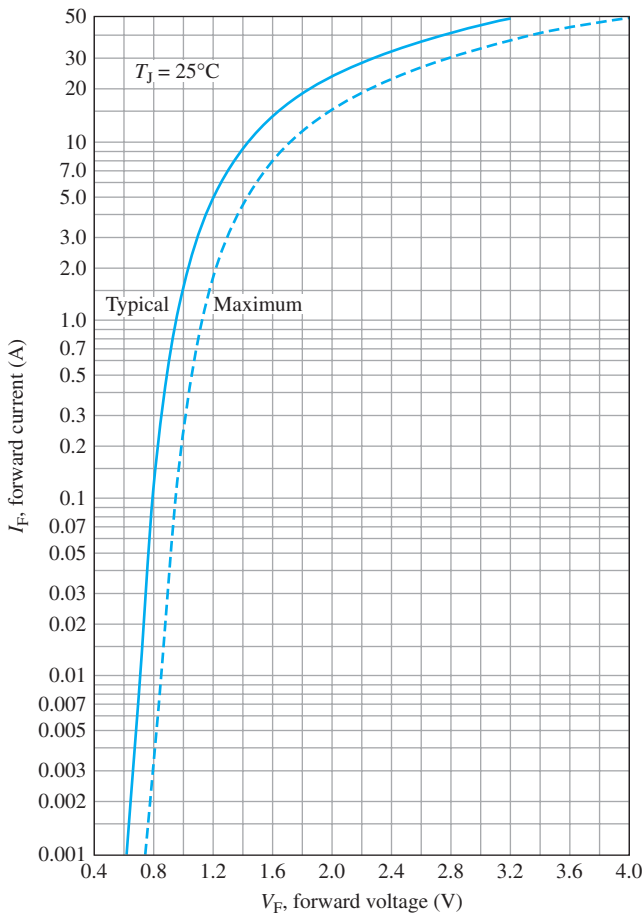

FIGURE 2-66 Forward voltage (V_F) versus forward current (I_F).
- v_F The instantaneous voltage across the forward-biased diode when the forward current is 1 A at 25°C. Figure 2-66 shows how the forward voltages vary with forward current.